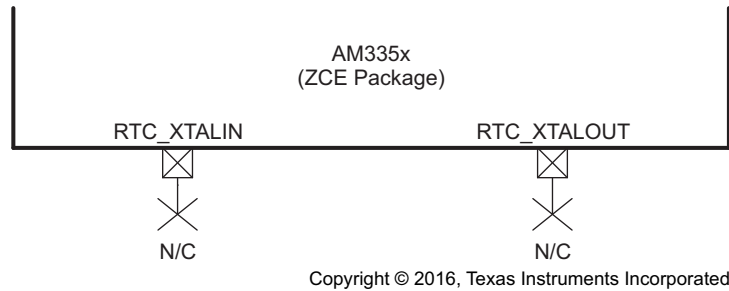
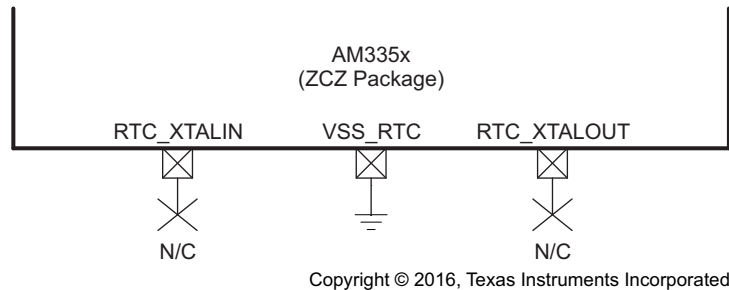

图 6-17. OSC1 (ZCE Package) Not Used Schematic
图 6-18. OSC1 (ZCZ Package) Not Used Schematic
(1) Initial accuracy, temperature drift, and aging effects should be combined when evaluating a reference clock for this requirement.
图 6-17 shows the recommended oscillator connections when OSC1 of the ZCE package is not used and 图 6-18 shows the recommended oscillator connections when OSC1 of the ZCZ package is not used. An internal 10-k Ω pullup on the RTC_XTALIN terminal is turned on when OSC1 is disabled to prevent this input from floating to an invalid logic level which may increase leakage current through the oscillator input buffer. OSC1 is disabled by default after power is applied. Therefore, both RTC_XTALIN and RTC_XTALOUT terminals should be a no connect (NC) when OSC1 is not used.